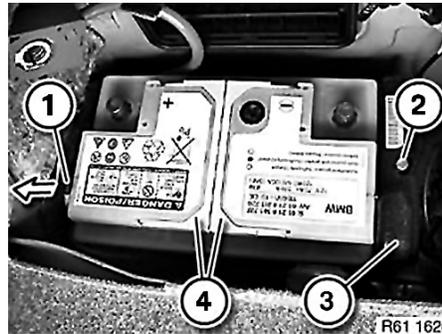

Fig. 6 Battery removal
8. Disconnect vent hose (1) from battery, **Fig. 6**.
9. Remove hold down bolt (2), **Fig. 6**.
10. Remove hold down and protector (3), **Fig. 6**.
11. Fold open handles (4) and lift out battery, **Fig. 6**.
1. Install battery and hold down (3), **Fig. 6**.
2. Install and tighten hold down bolt (2), **Fig. 6**.
3. Attach vent line (1) to battery, **Fig. 6**.